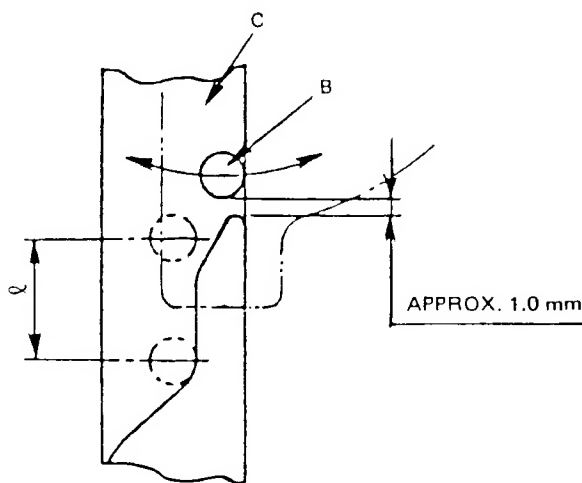
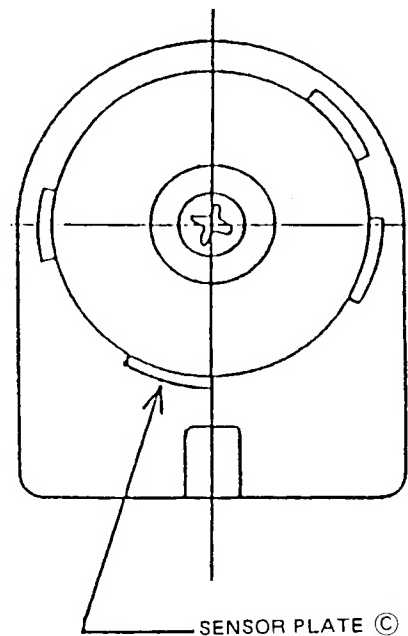

Fig. 68
Fig. 69
The current supply to the trimmer solenoid is cut off completing its actuation when the tension release action plate pin B is in the range ℓ shown in Fig. 68. This timing is controlled by the sensor plate (C) and when adjustment is necessary, reset this sensor plate.
Turn machine pulley until the clearance between tension release action plate pin and tension release action cam C is approximately 1mm (0.39") (Fig. 68) and while holding the machine pulley in this position, set sensor plate (C) as shown in Fig. 69.